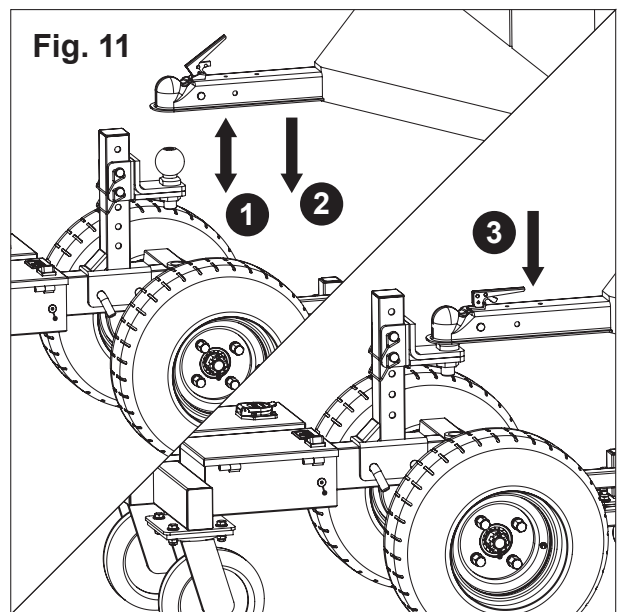

Fig. 11
- First move the dolly near the trailer coupler of the trailer, and adjust the height of the hitch ball according to the height of the trailer coupler, until the hitch ball is slightly lower than the trailer coupler. Move the dolly so that the hitch ball and the trailer coupler are lined up (Step 1), lower the trailer slowly via the jack until the trailer jack coupler fully engages with the hitch ball (Step 2), and lock the safety hook after making sure that the hitch ball and the trailer coupler are connected securely (Step 3). (See Fig.11)